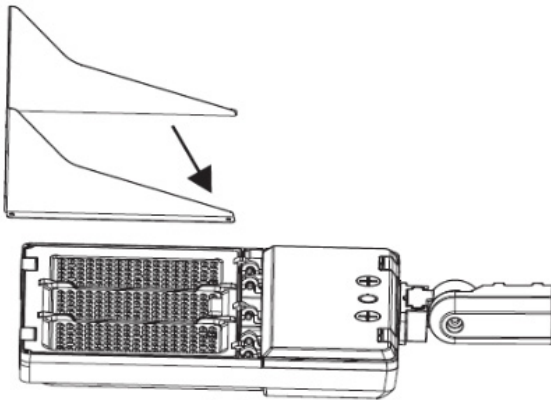

Fig. 13
1. Align the visor to the face of the fixture. **Note** that the visor cannot be installed on the sides. It can only be installed on the front, back, or front and back (Fig. 13 and 14).